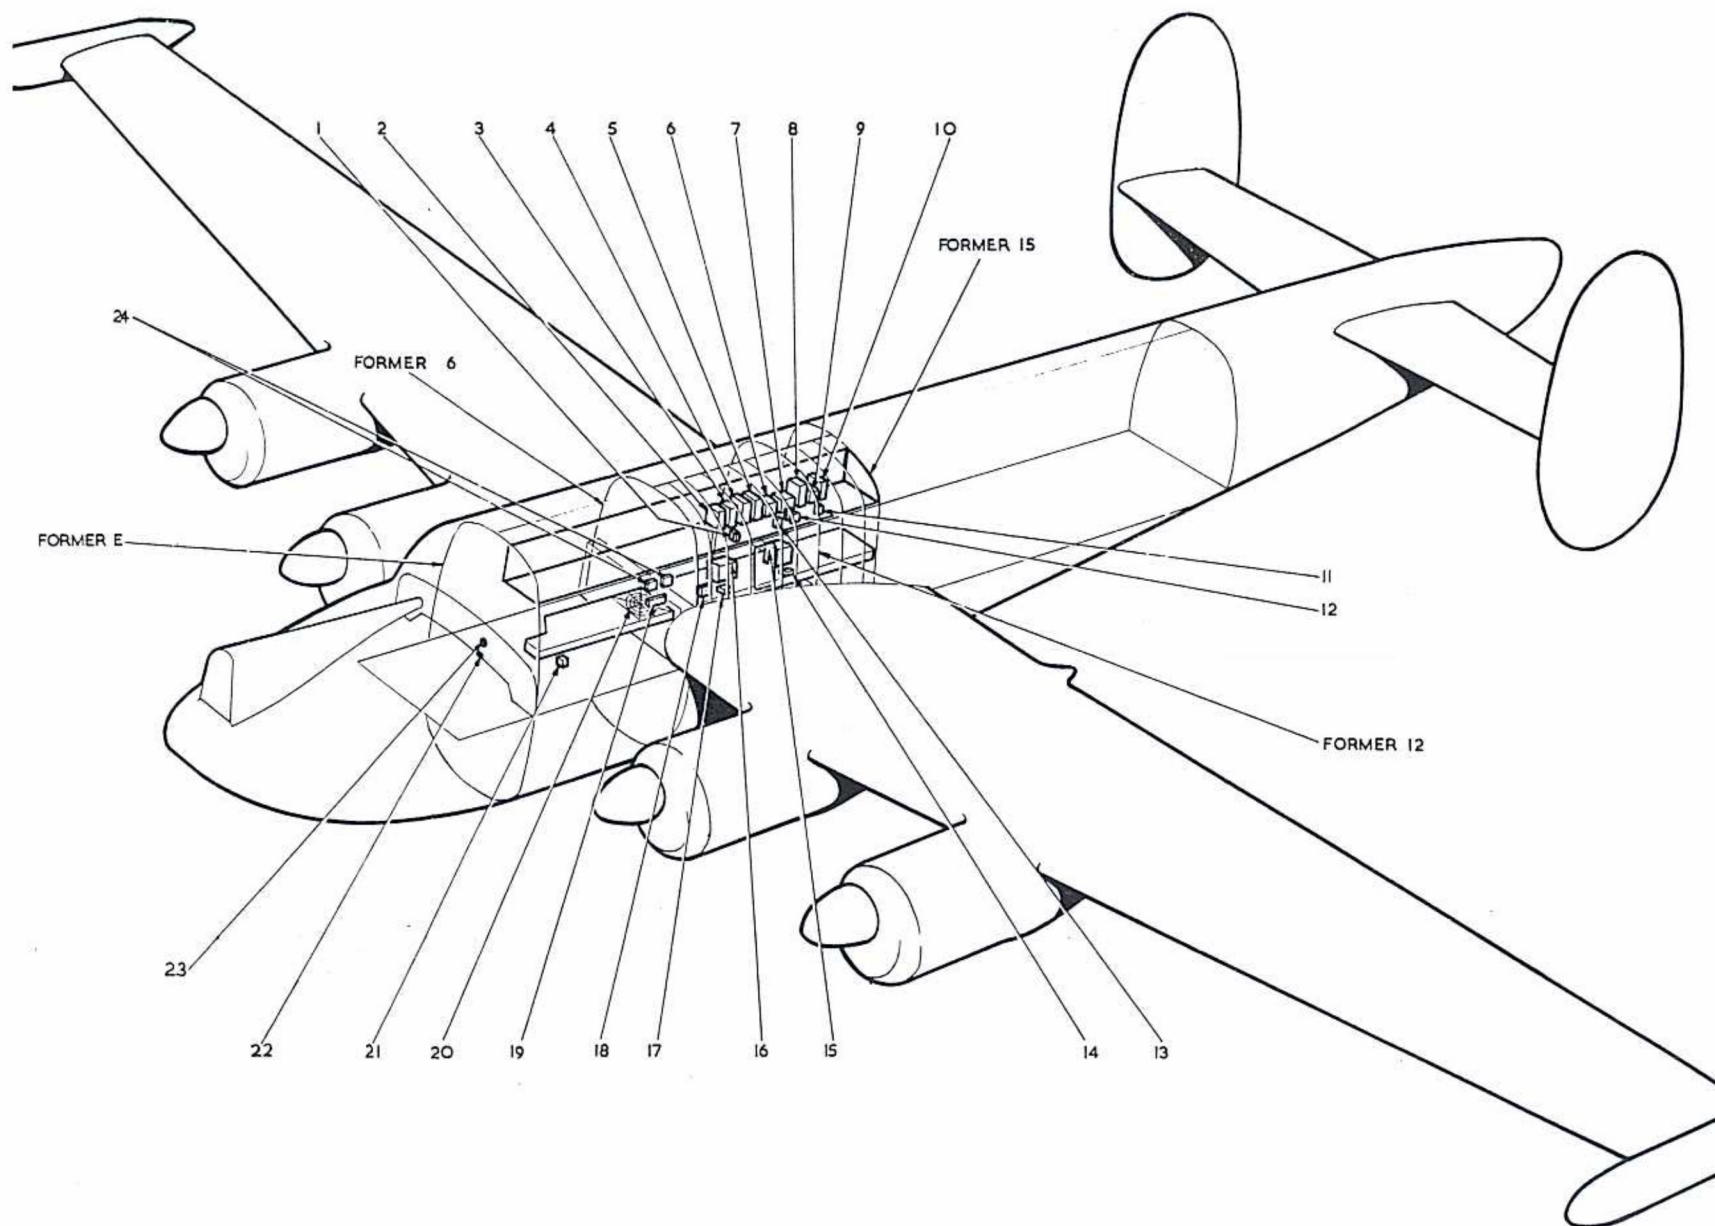

Fig.1 Location of equipment
fig.1 and the major components listed in Table 1. The two installations are functionally the same, utilising similar equipment. The system is fully described in A.P.116G-0101-1, but a brief description is contained in this chapter.
20. Two indicators are fitted, one for each installation, as shown in fig.1. Both indicators connect into the A.R.I. 18208/1.